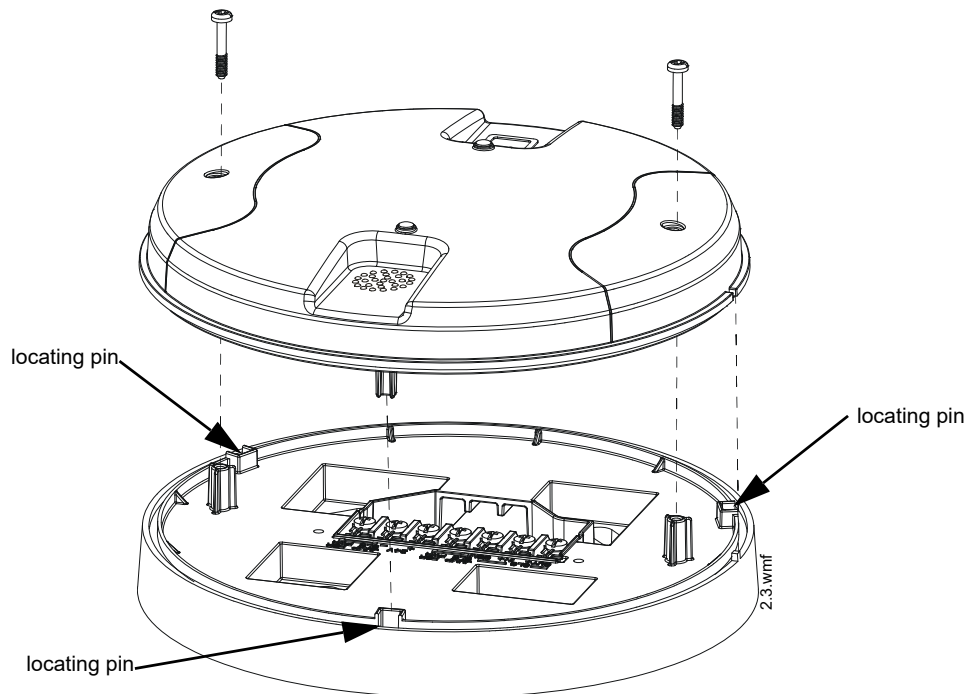

Figure 3.4 Attaching Cover to Mounting Plate
5. To mount the cover, align the locating pins on the cover to the corresponding slots in the mounting plate. See Figure 3.4.